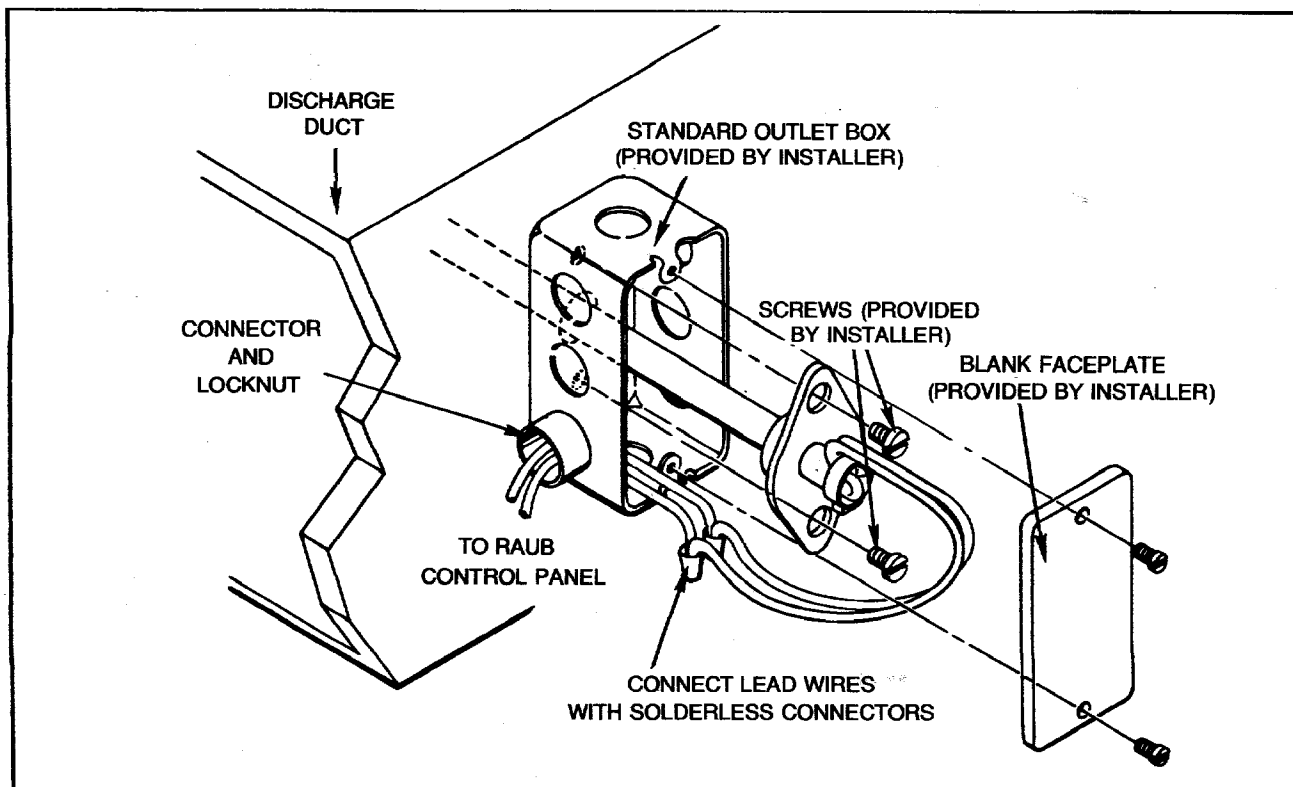

FIGURE 35 - Duct Sensor Assembly
2. Mount the duct sensor (2RT1) in an average temperature location at the outlet of the supply air ductwork. See Figure 35. If an economizer or heating section is incorporated in the system, the duct sensor must be located downstream (after mixing has occurred).